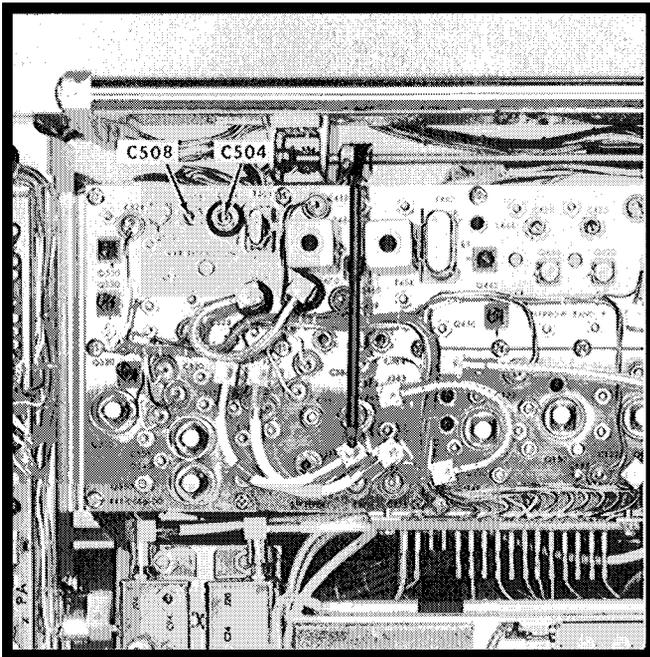

Fig. 6-27. Location of C504 and C508.
i. Set the RESOLUTION selector fully clockwise. Adjust C504 and C508 (Fig. 6-27) for optimum display symmetry on the test oscilloscope. See Fig. 6-25. Adjust C504 for the slope of the response and C508 for symmetry. Turn the RESOLUTION selector counterclockwise one step from fully clockwise position. Adjust C601, C604, C607 and C610 for optimum display symmetry and amplitude.